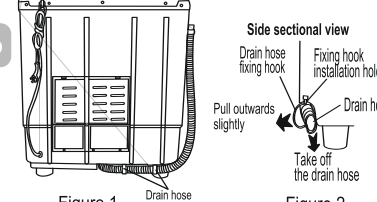

Figure 1 Drain hose hanging hook
- Figure 1 indicates the ex factory installation position of the drain hose.
- (a) Set fill selection to 'Wash side'. (Figure 1)